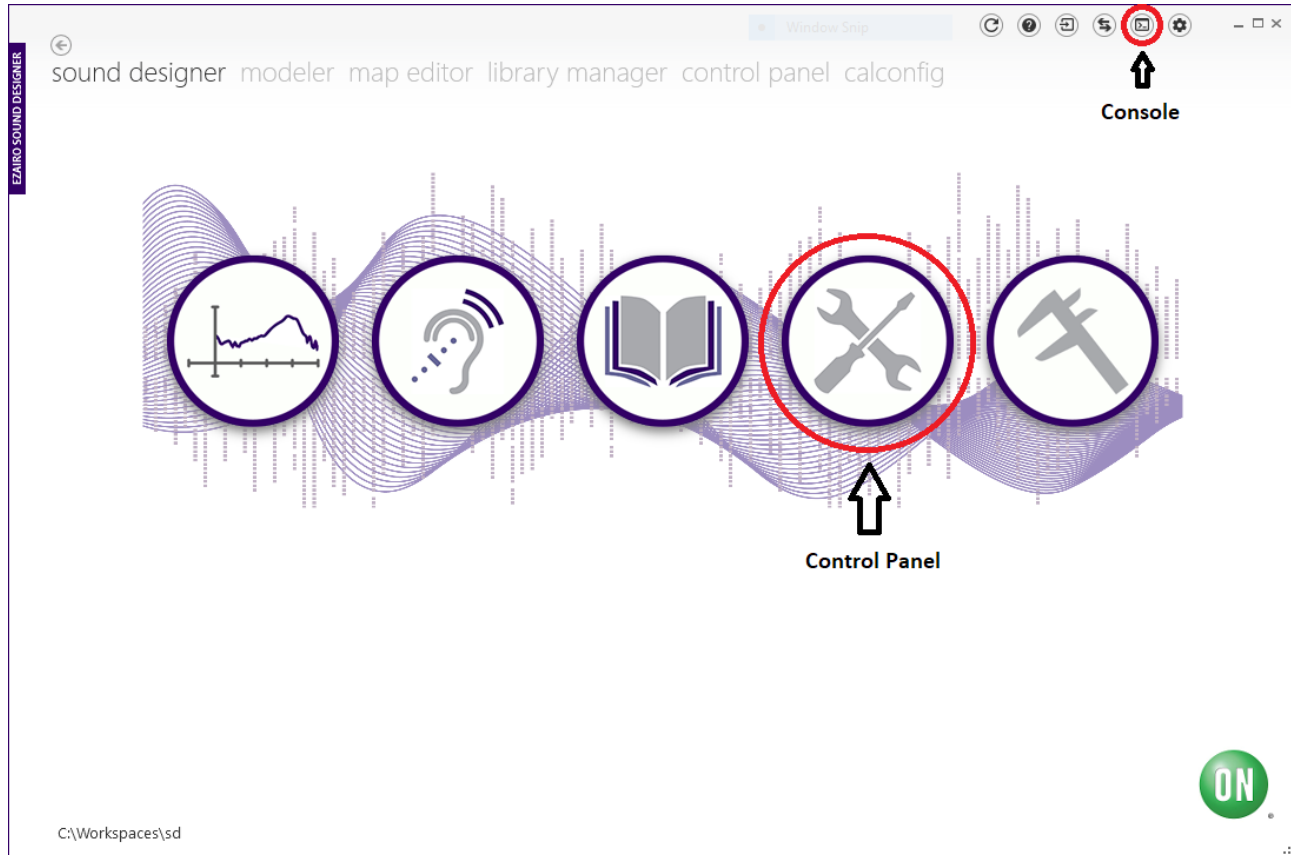
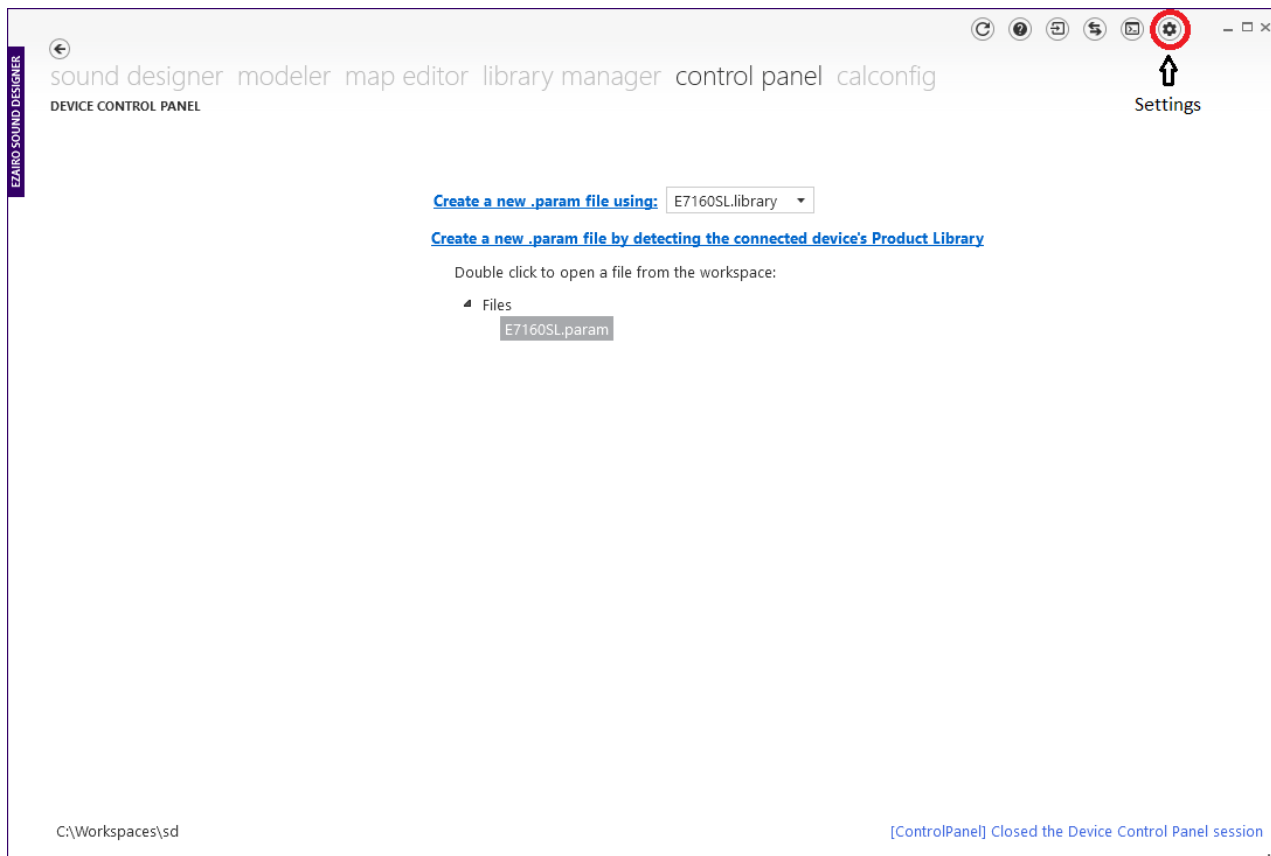

Figure 7. Opening the Control Panel and the Console Window
Figure 8. Selecting the Parameter File
- Optionally, open the console window by clicking the Show Console icon (shown in the "Opening the Control Panel and the Console Window" figure (Figure 7)). The console window displays error and status messages accumulated in this session. We recommend having the console viewable at all times while using Sound Designer Software, to get immediate status information.
- To configure device parameters, click on the **Control Panel** icon (circled in red in the "Opening the Control Panel and the Console Window" figure (Figure 7)) and, when prompted, double-click the **Ezairo7160SL.param** sample parameter file to open the demo product library, as shown below in the "Selecting the Parameter File" figure (Figure 8).